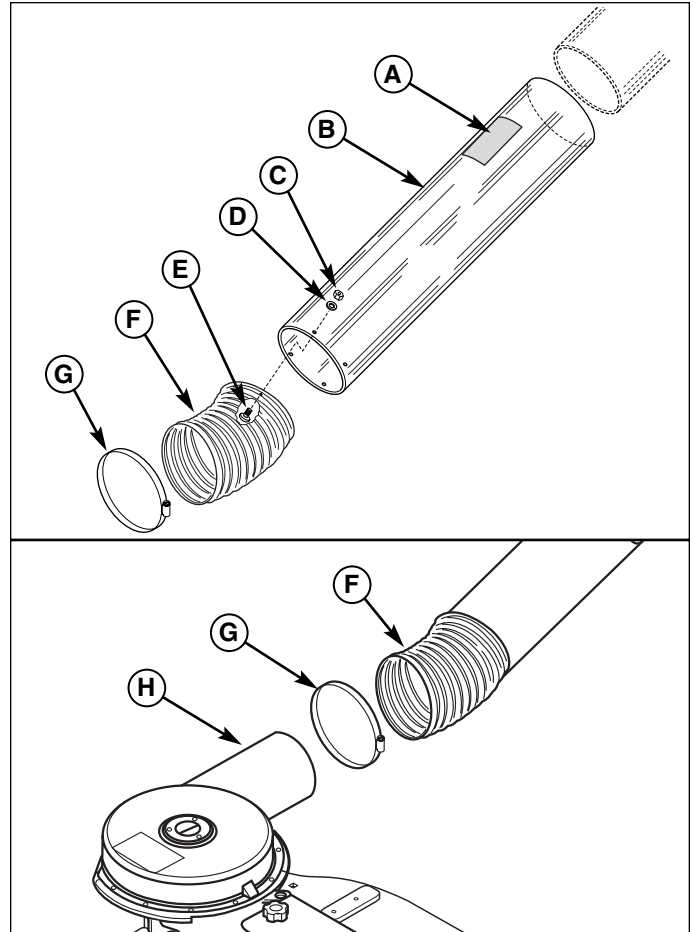

Figure 6. Discharge Tube Installation
1. Connect the flexible hose (F, Figure 6) and clear plastic discharge tube (B). The two should overlap by approximately 2".
2. Secure the tubes using truss head screws (E), washers (D), and locknuts (C). Insert the screws from the inside out and poke them through the flexible hose.
3. Insert the upper end of the clear tube into the cart sleeve. Slide the flex hose (F) over the turbo (H) and secure with the large hose clamp (G). The hose should overlap the turbo discharge by 2"-3".
Check that the upper end of the clear tube (B, Figure 6) is not contacting the top of the collector cover. If necessary, cut off the clear tube flush with the sleeve (See Wide Body Cart Operators Manual).